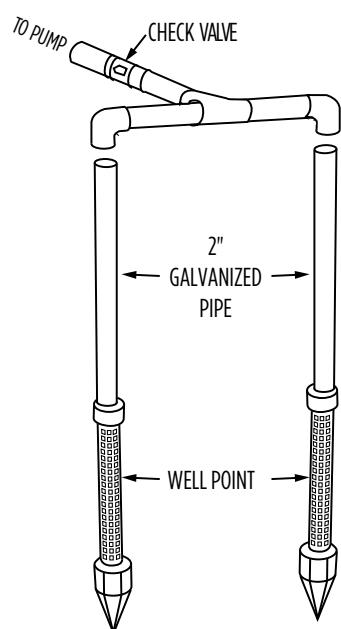

**Figure 5**
### A. Suction Port Connection (Figure 5)
5. Start the pump. A properly primed pump should discharge water without air at a consistent pressure. If the pump does not produce water after five minutes, stop the pump, release all pressure, remove priming port plug, add more water, replace plug, and try again. Ensure that a foot valve is properly installed on the suction pipe (Figure 5). If an exceptionally long suction line is used, the water in the pump casing may become overheated or vapourlocked. Should this occur, replace the water in the casing with cold water and continue priming.